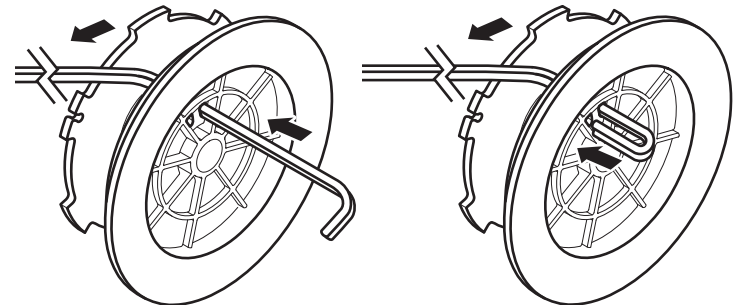

Fig. 32
2. Insert one line end through one of the two holes in the inner reel. Pull the line through the inner reel until about 4 inches (10 cm) remain (Fig. 32).
3. Insert the end of the 4-inch section into the open hole in the inner reel and pull the line tight to make the loop as small as possible (Fig. 32).